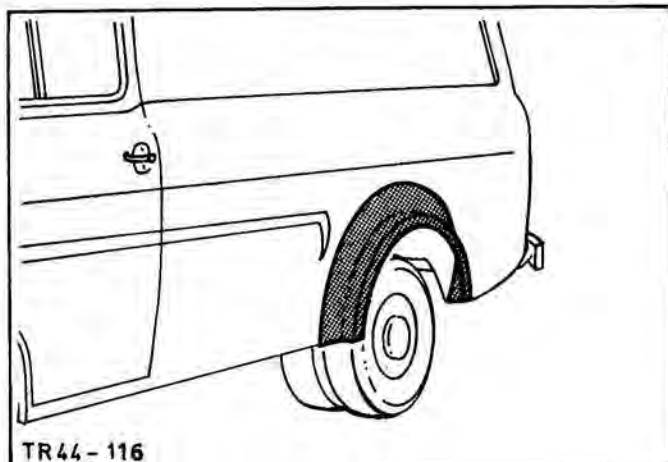

Fig.210. View of rear fender.
1. Remove fender (7 bolts), Fig.210.